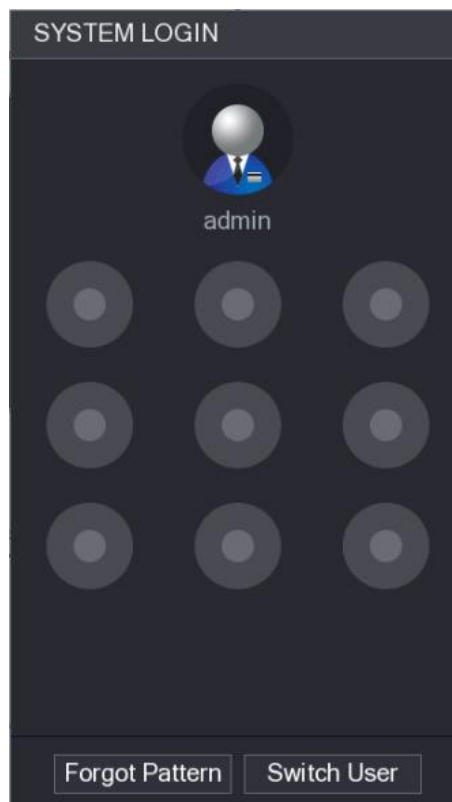
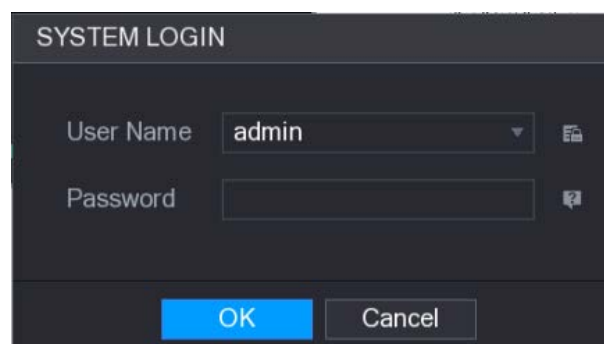

Figure 5-5
Figure 5-6
- If you have configured unlock pattern, the unlock pattern login interface is displayed. See Figure 5-5. Click **Forgot Pattern**, the password login interface is displayed. See Figure 5-6.
- If you did not configure unlock pattern, the password login interface is displayed. See Figure 5-6.